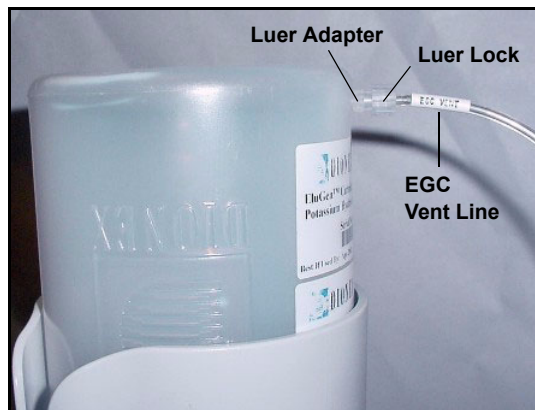

Figure 42. Installing the EGC Vent Line
4. Twist the luer lock and EGC vent line into the luer adapter (see Figure 42).